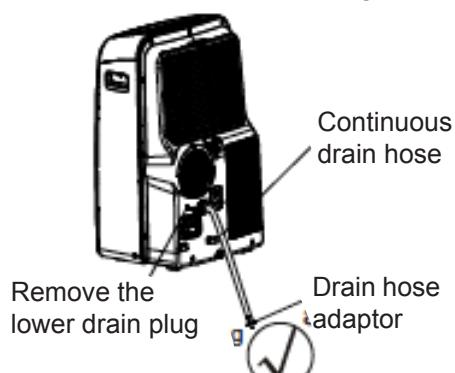

Fig. 20b
- During heating pump mode, remove the lower drain plug from the back of the unit, install the drain connector(5/8 universal female mender) with 3/4 hose(locally purchased). For the models without drain connector, just attach the drain hose to the hole. Place the open end of the hose adaptor directly over the drain area in your basement floor. Please refer to Fig.20b.